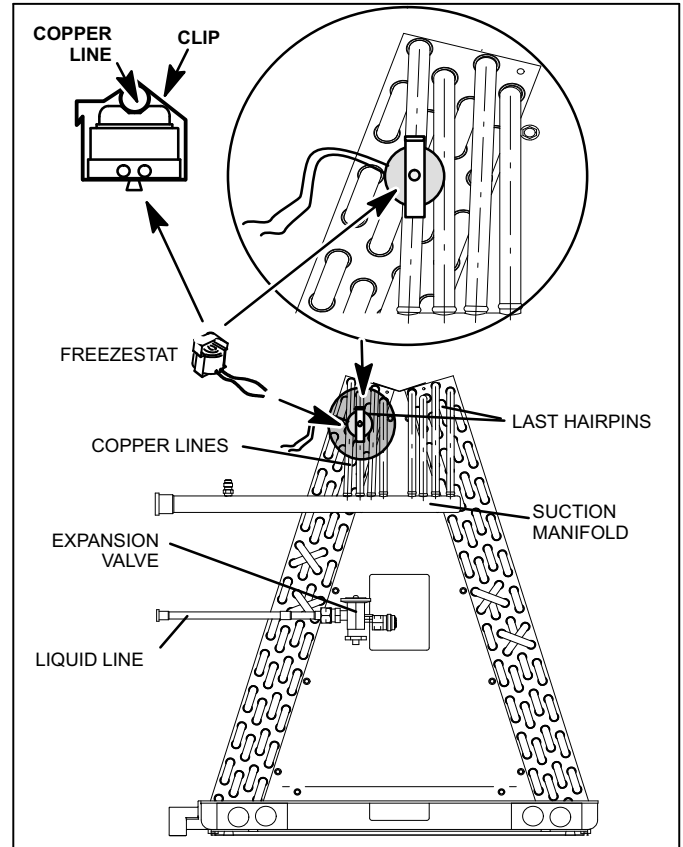

Figure 3. Typical Freezestat (S49) Installation (Indoor Coil)
1. - A freezestat, sized per table 1 and ordered separately, must be installed. Install the freezestat on one of the copper lines between the last hairpins and the suction manifold (see figure 3).